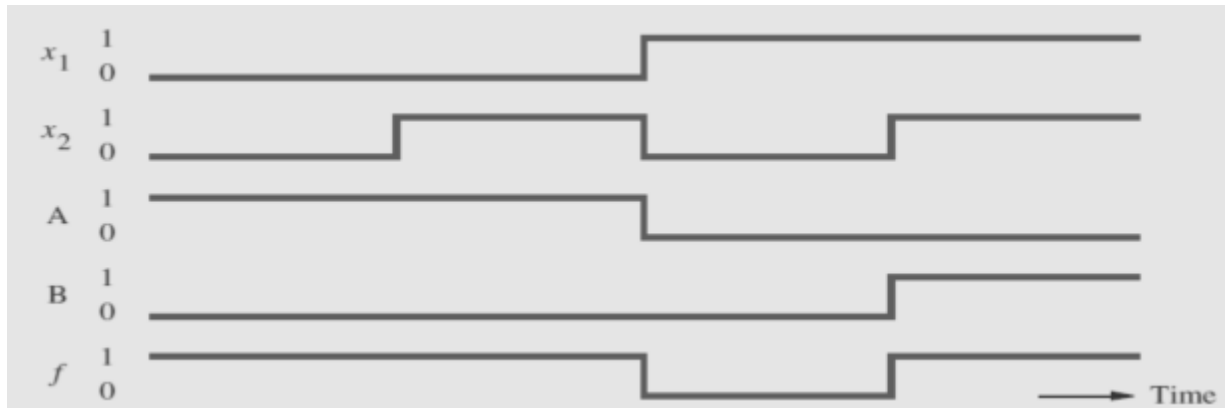

Figure 1.8. Timing diagram of the above circuit
- The information in Fig. 1.7 can be presented in graphical form, known as a timing diagram, as shown in Fig. 1.8.